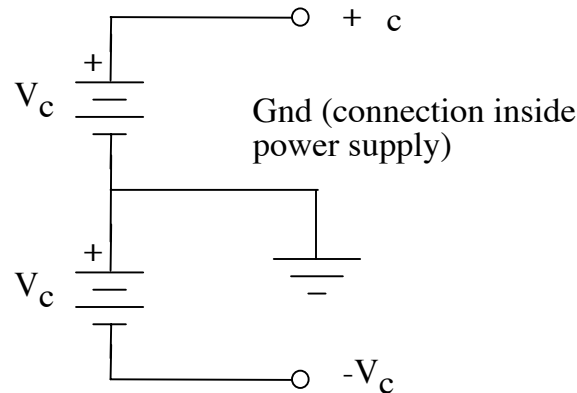

Figure 1: OpAmp and Potentiometer Power Supply Configuration
1. The schematic below (Figure 1) shows a standard $\pm V_{CC}$ configuration for an OP AMP bipolar power supply. The schematic symbols for batteries are used in Figure 1 to indicate that the power supplies need to be a constant DC voltage. **$+V_{CC}$ and $-V_{CC}$ are POWER SUPPLY CONNECTIONS for both the OpAmp and for the potentiometer.**
Note that the common output of this power supply is generally not internally connected to the ground (green output terminal). It is often necessary to connect the “common” output to the ground of the power supply with banana plug leads. This connection prevents power supply voltages from “floating” and causing inaccurate measurements. As shown in Figure 1, the connection labeled "Gnd" between the V_{CC} supplies is used as the circuit ground. This corresponds to the common (COM) binding post that you will also connect to the green grounding binding post on your power supply.